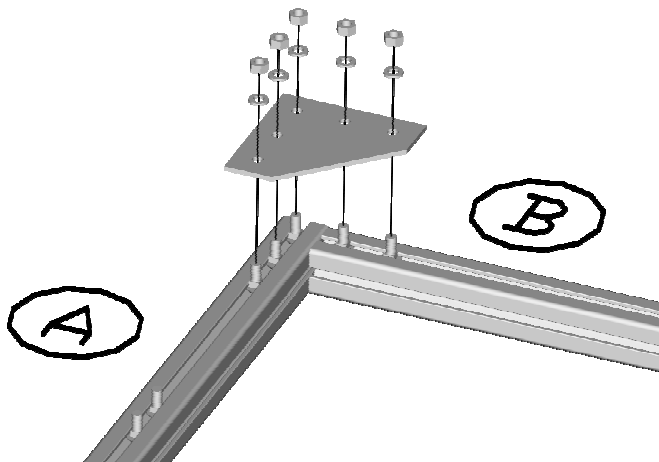

Figure 3-A
3. Push framing members A and B together and position the bolts so that the corner bracket will fit over them. Slide corner bracket "1" over the bolts (see Figure 3-A). Apply one lock washer and nut to each bolt – hand tighten. Make sure the surfaces of each framing member are flush to the adjacent member. Use a carpenter's square to align the corner. Tighten the bolts with a ratchet or box end wrench.